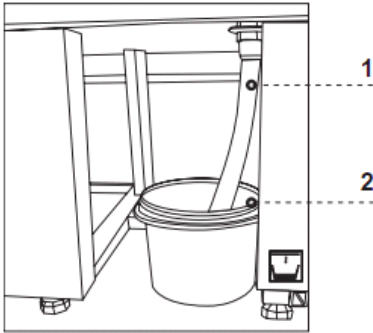

Fig.6 Condensate container
- Turn the main switch on Fig. 6 (p. 15), which will activate the thermostat followed by activation of the refrigeration unit
- Set the temperature on the thermostat panel Fig. 6/3 (p. 15) (details on p. 19 or 20)
- Turn the lighting switch on Fig. 6/2 (p. 15)